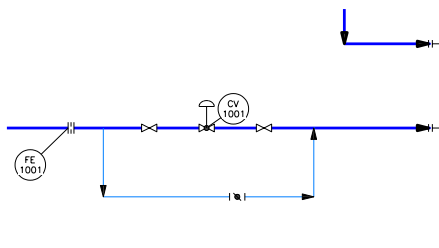

Figure 2-64 Location of the orifice
2. Place the restriction orifice on the pipe which is connected to the vessel, as shown in Figure 2-64.